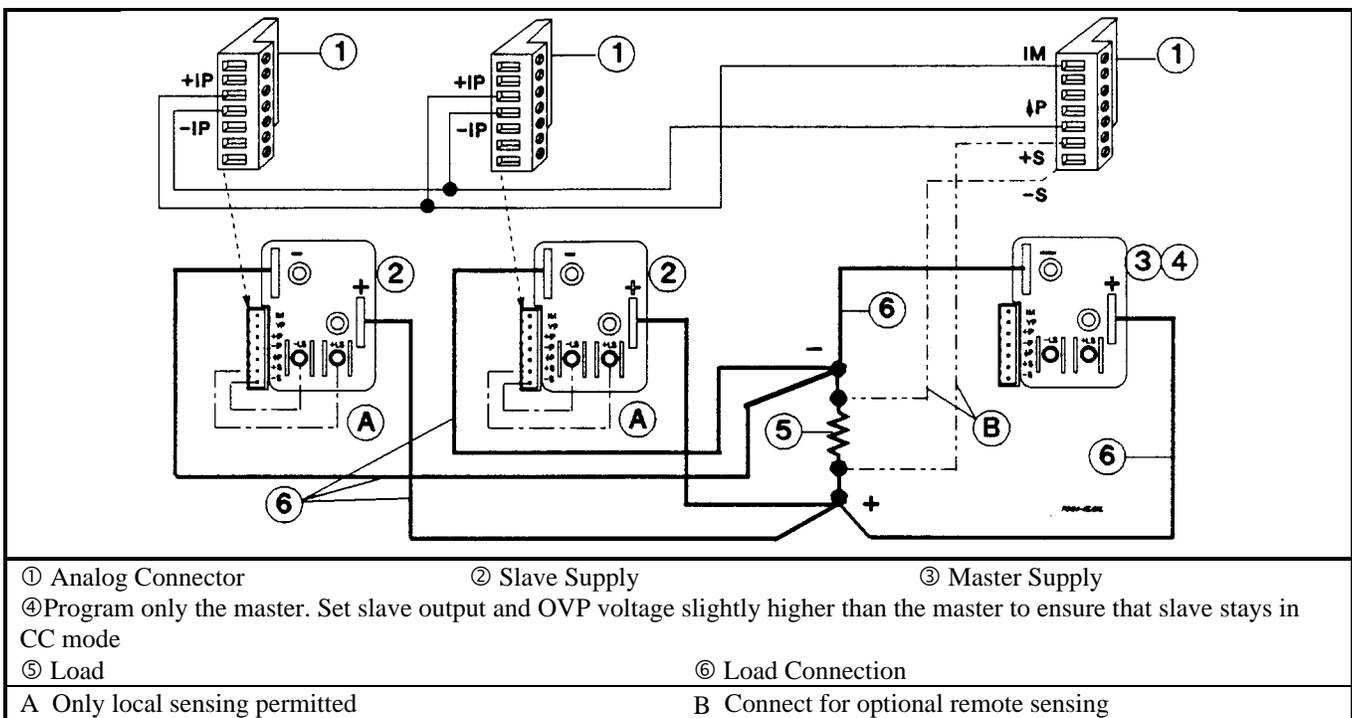

Figure 4-4e. Series 667xA Auto-Parallel Connection (Remote Sensing Optional)
**Auto-Parallel Wiring (Figure 4-4e).** Figure 4-4e illustrates how power supplies can be connected in auto-parallel for increased current output. You can connect up to five supplies of the *same model*.
Use load leads of a sufficient wire size so that the absolute voltage difference between the + output terminal of the "master" supply and the + output terminal of the first "slave" supply is kept under 2 V at rated current. This also applies to the voltage difference between the + output terminals of the first and second slave supplies. If remote sensing is required, connect the load to the remote sense terminals of *the master supply*, as shown by the dashed lines in Figure 4-4e.